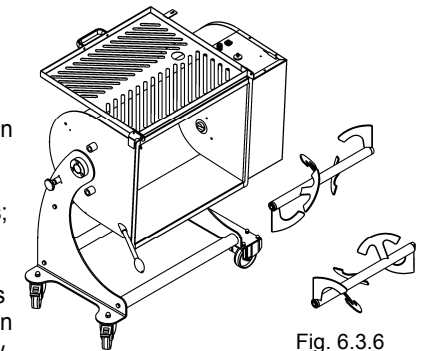

Fig. 6.3.6
- The surface is now smooth and easy to clean Fig. 6.3.6, clean the mixer thoroughly and if necessary disinfect.